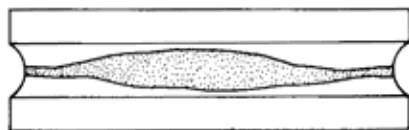

FIGURE 20
5. A single wide section in the track (Fig. 20) suggests dynamic unbalance in a rotating member or a point of constant radial load in a stationary member.